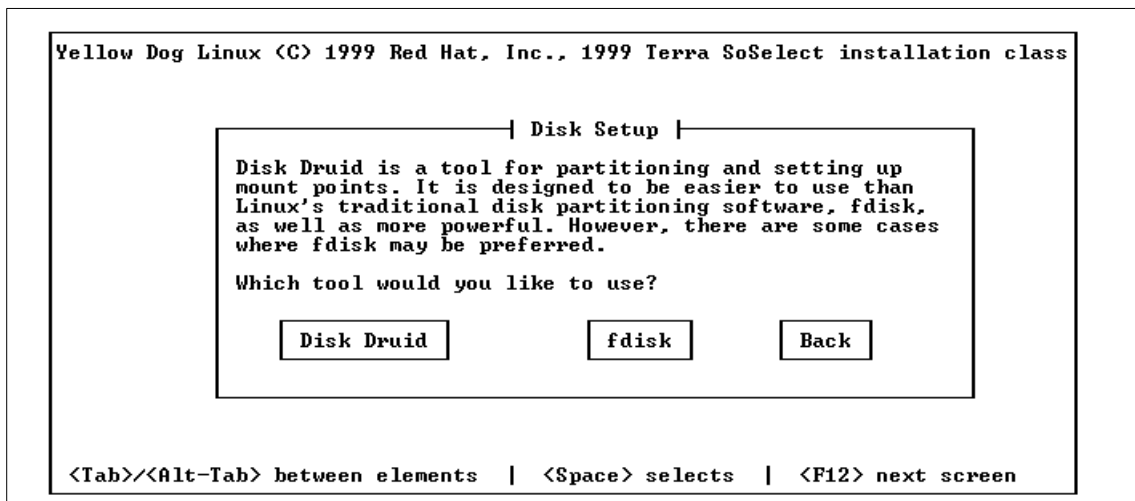

Figure 32. Disk Partitioning
11. You can see the disk drives on the display are those installed on your RS/6000. Select the drives that you want to install to. In this case, **/dev/hda** was selected. You must select **Edit** to partition the selected drive(s) (Figure 32 is the topic of the next discussion).